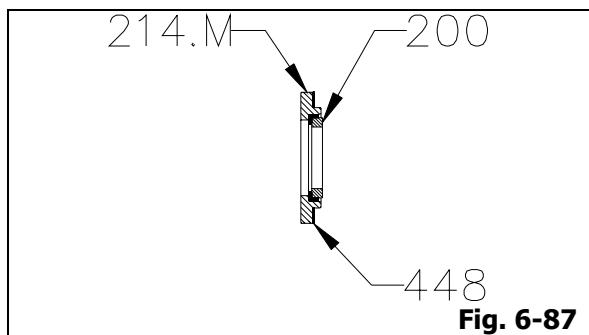

Fig. 6-87
9. Coat mechanical seal (200) seat surface in end ring for mechanical sealing (214.M) with oil. Carefully place the stationary portion of mechanical seal (200) into position and press gently by hand until the shoulder of the seal is fully seated against the end ring for mechanical sealing (214.M). Make sure that the lapped face of seal is facing outside.
10. Install end ring gasket (448) onto end ring for mechanical sealing (214.M) (Fig. 6-87).